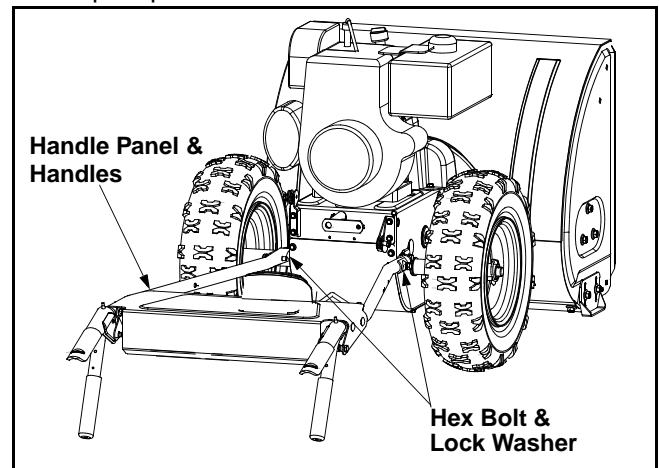

Figure 8
- Lay handle assembly behind snow thrower. See Figure 8.
- Hold the handle assembly up to the bottom of the snow thrower frame and thread the hex bolt into the lower hole in snow thrower frame. Do not tighten at this time. See Figure 8.